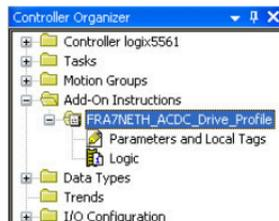

Figure 88: AC/DC Drive Profile Add-On Instruction
- 2) Right click on “Add-On Instructions” in the controller organizer view and select “Import Add-On Instruction”. Browse and import the AC/DC drive profile add-on instruction. Refer to Figure 88.